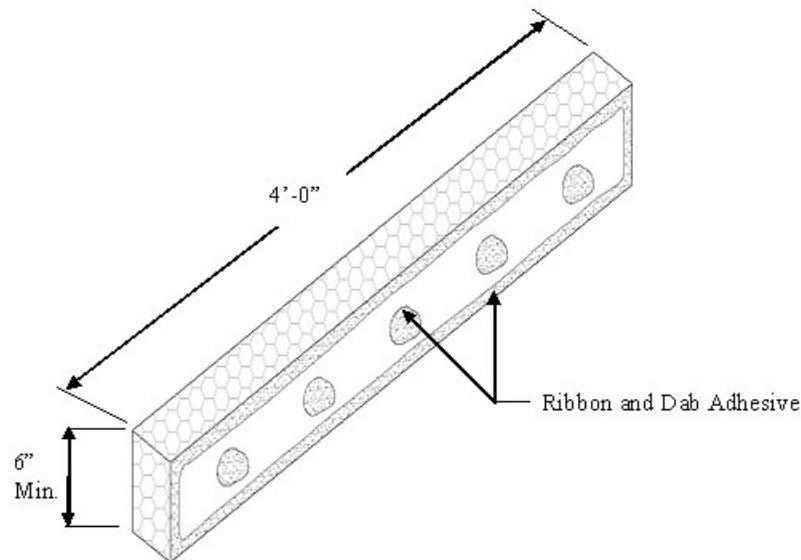

Figure 29
8. Tops of walls, sills of continuous windows and other horizontal system terminations are terminated using 6 in or 12 in x 48 in (152 mm or 305 mm x 1.2 m) Closure Blocks. These are adhered to Backstop NT using a ribbon and dab adhesive pattern as shown in the Figure 29.